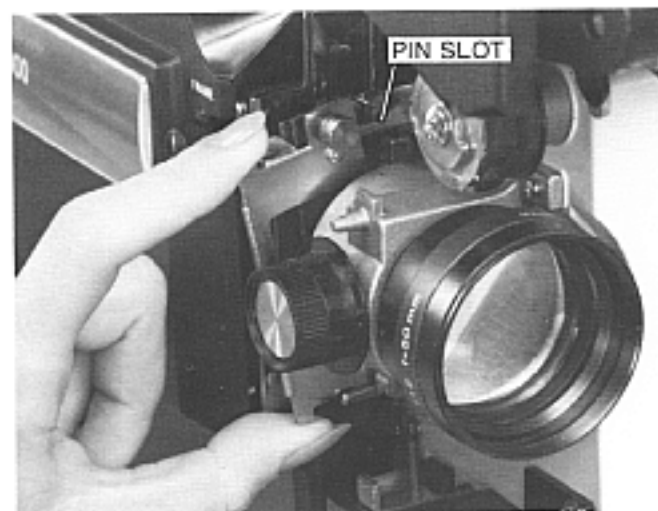

Figure 22
7. Put the bottom pressure pad guide pin into the bottom slot as shown in Figure 22, and then gently push the top pin all the way into its slot.